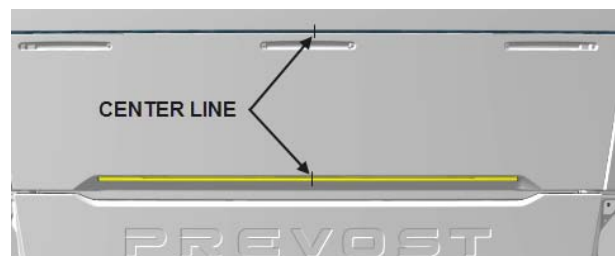

FIGURE 21
3. To ease the drip edge installation, draw reference lines indicating the center of the rear end to make sure that the drip edges will be installed perfectly centered (FIGURE 21). You may use the center high mounted stop light as reference to find the center of the rear end.